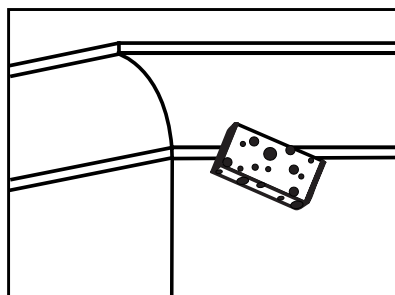

FIGURE 70 Wipe Down
- > Wipe down the cornice with a wet sponge [Figure 70].